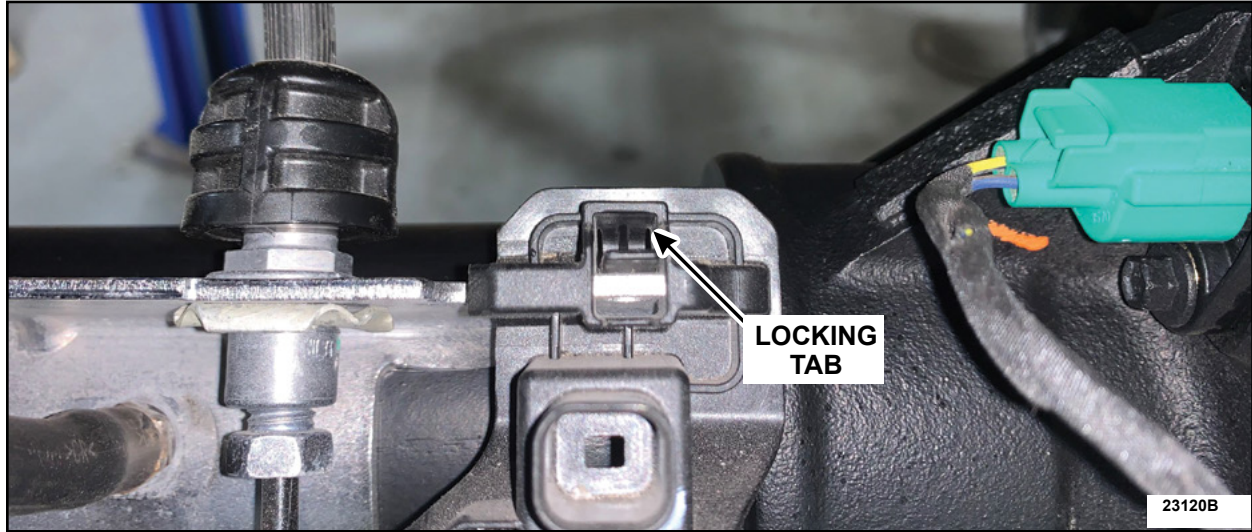

FIGURE 3
3. Locate the locking tab on the shield. See Figure 3.